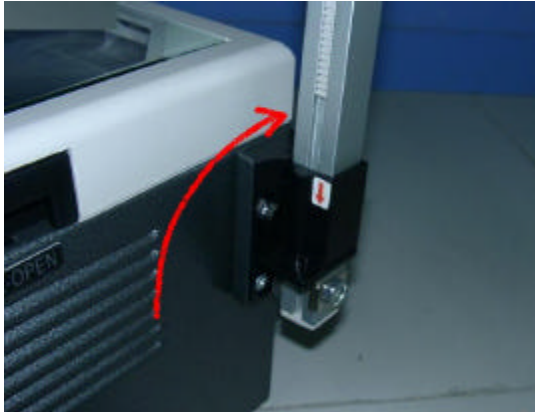

fig. 1
2. Pull up the post to set up the Head Mirror to an up-right position until the post is locked automatically. (See fig.1)